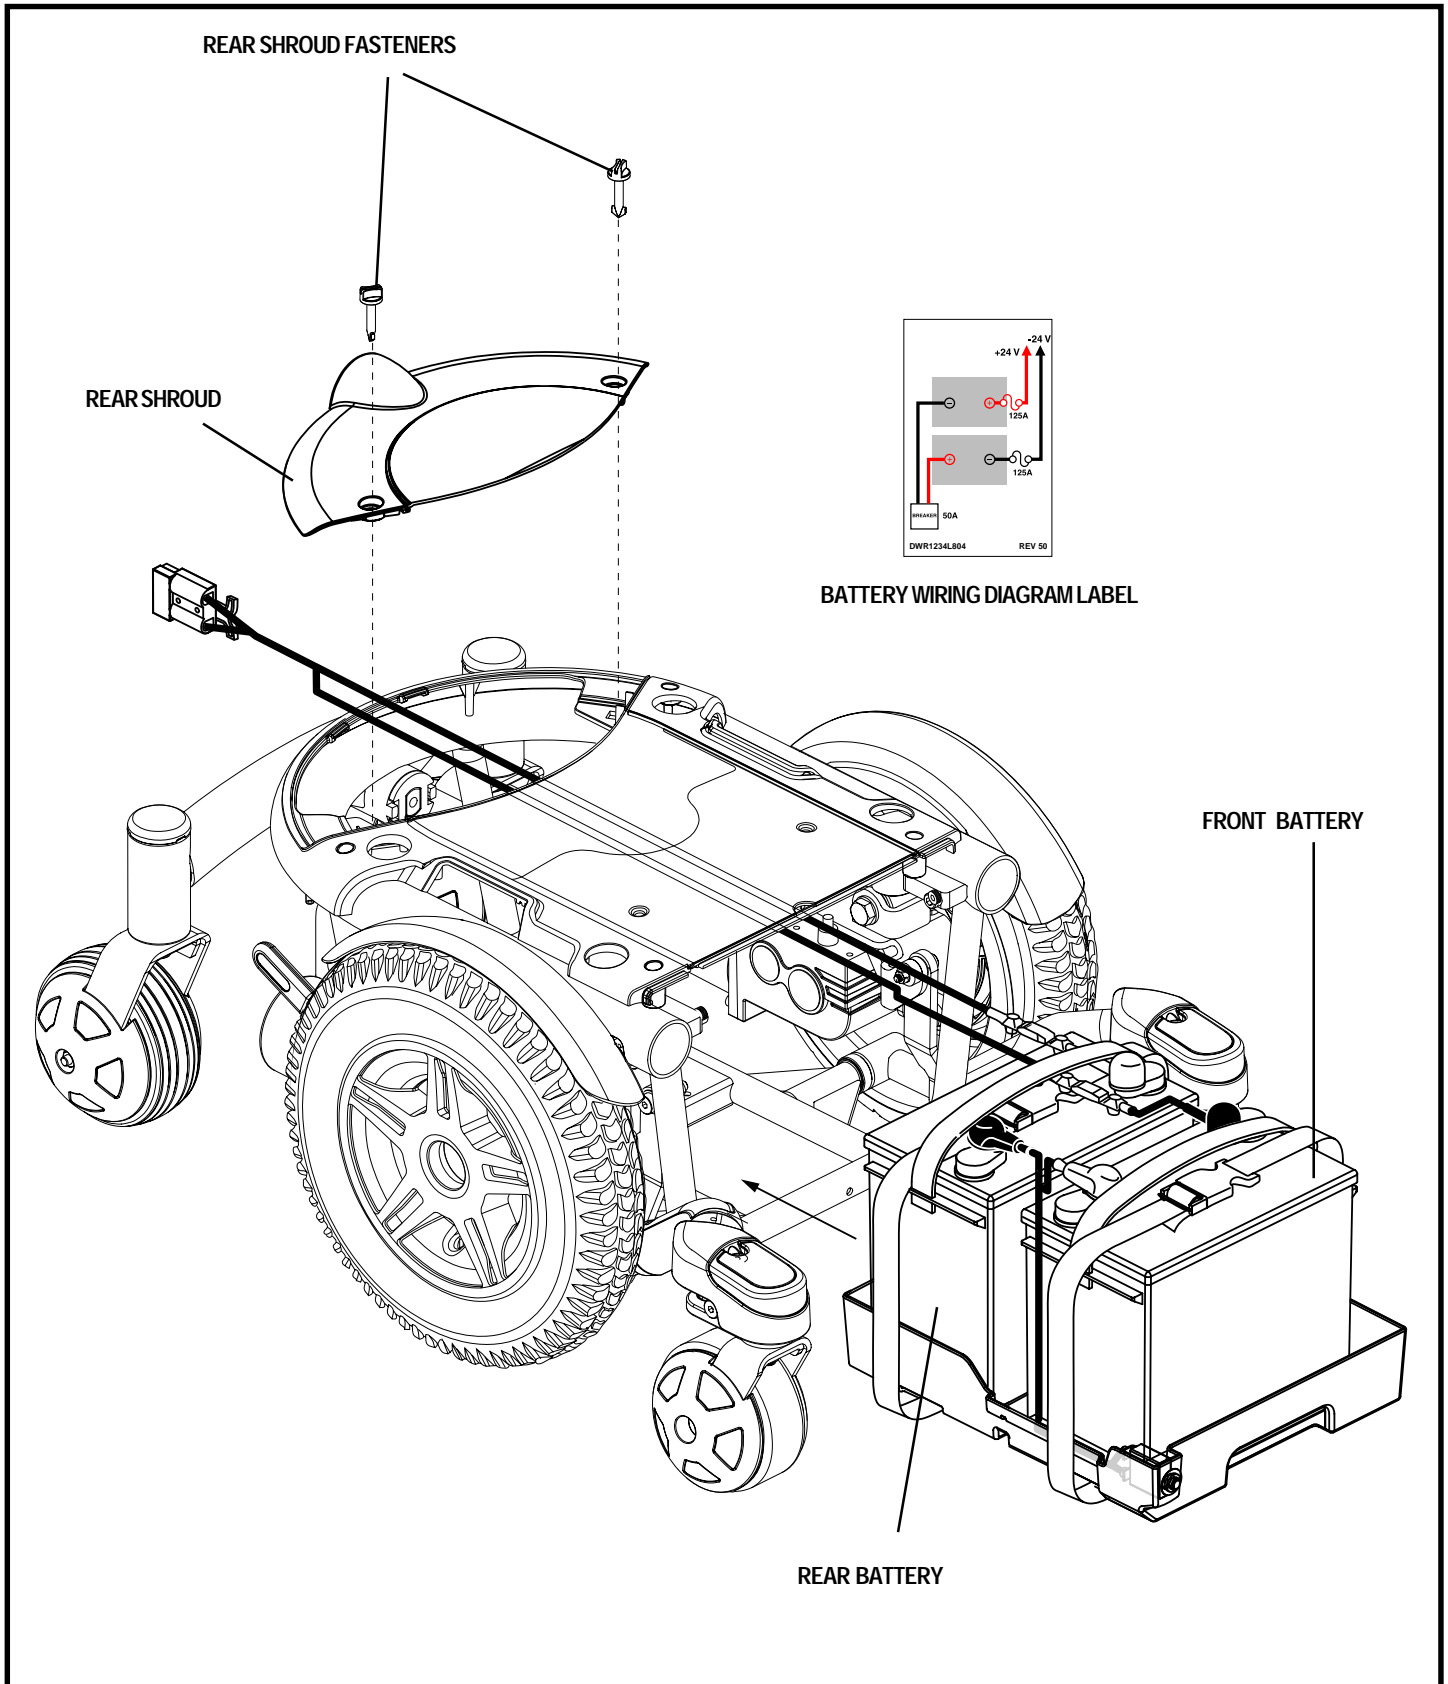

Figure 28. Battery Installation
3. Loosen the rear shroud fasteners and remove the rear shroud. See figure 28.
12. Connect the battery harness to the front battery according to the battery wiring diagram. See figure 28.